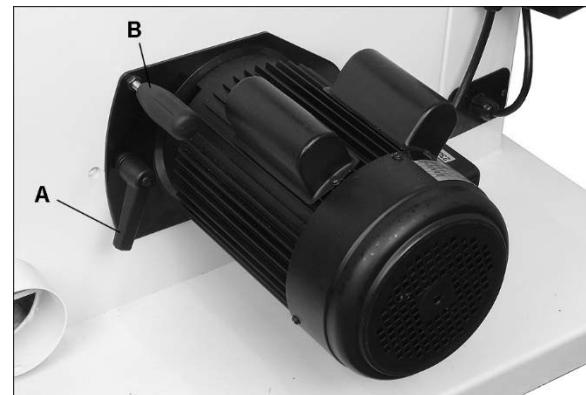

Figure 7-21
1. Loosen lock handle (A, Figure 7-21).
5. Loosen lock handle (A, Figure 7-21). Apply belt tension by slightly pushing down handle (B).
6. Tighten lock handle (A) to secure motor position.
3. Loosen motor lock handle (A, Figure 7-21).
4. Raise motor lift handle (B) and retighten lock handle (A) to hold motor in raised position.
10. Loosen motor lock handle (A, Figure 7-21) and allow motor to lower. Check tension by pushing